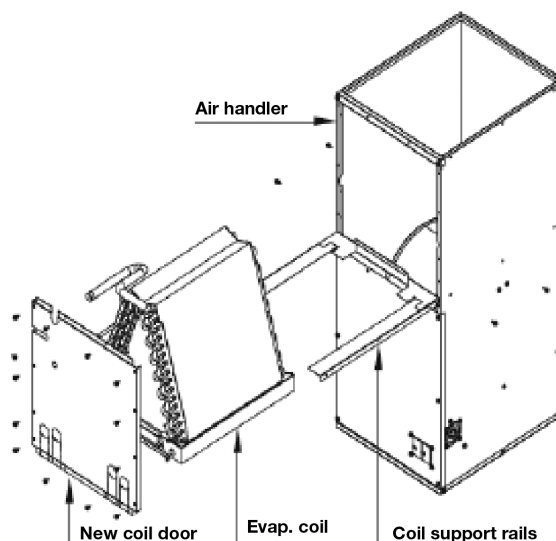

Figure 3. Evaporator Coil assembly after turning the air handler 180° for downflow conversion
6. Re-install the evaporator coil support rails in the holes provided in the unit casing as shown in Figure 3. Use the six (6) screws that were removed in step 4 to secure the evaporator coil support rails to the unit casing.
7. Re-install the cooling coil in the upright position as shown in Figure 3.
8. Remove the new evaporator coil access door from the kit and install over the evaporator section as shown in Figure 3.